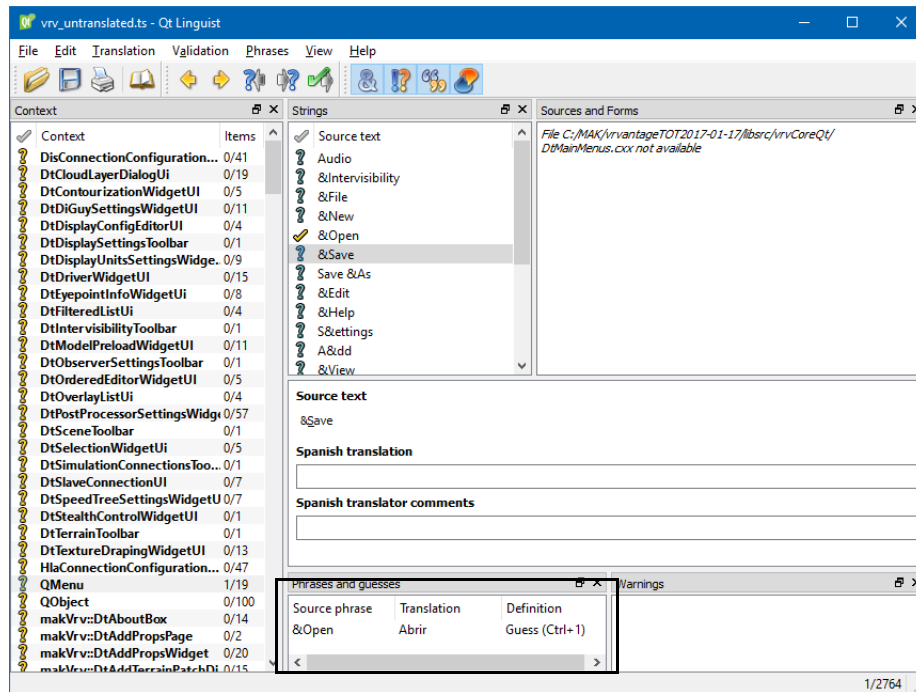

Figure 1-10. Completed translation for Open
9. When you are done and you are certain of the translation, select the Done and Next button on the toolbar. A green check mark replaces the question mark  (Figure 1-10). If you move to a different text string without clicking Done and Next, a yellow question mark is displayed for the string you translated. When you translate all elements for a class, a green check mark replaces the question mark next to the class name.